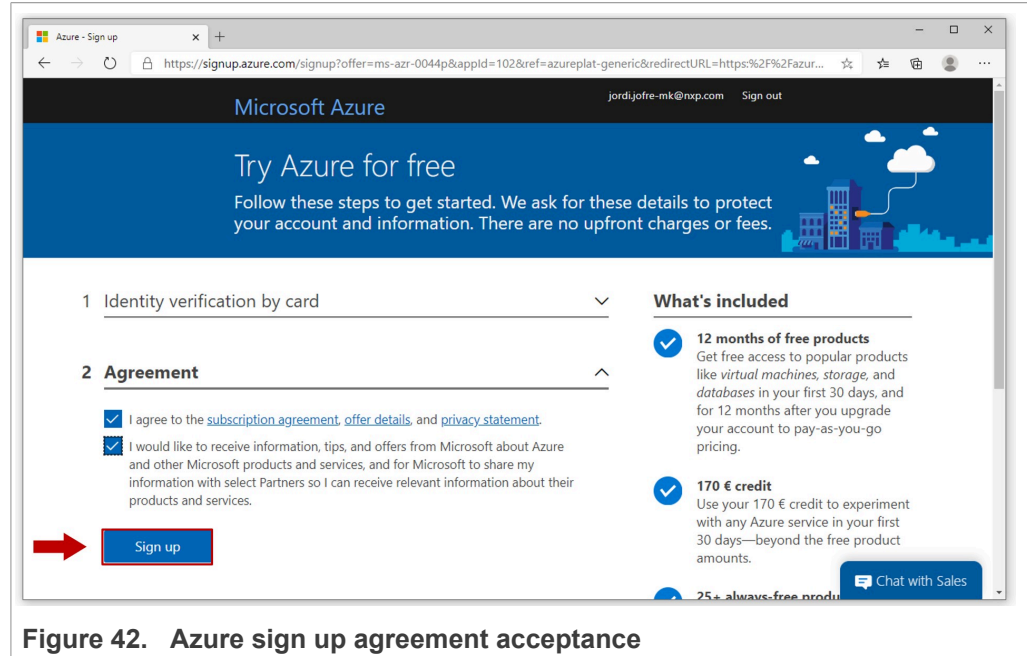

Figure 42. Azure sign up agreement acceptance
4. Check the **I agree** checkbox and click **Sign Up** as shown in Figure 42. In a few seconds, your account will be ready.